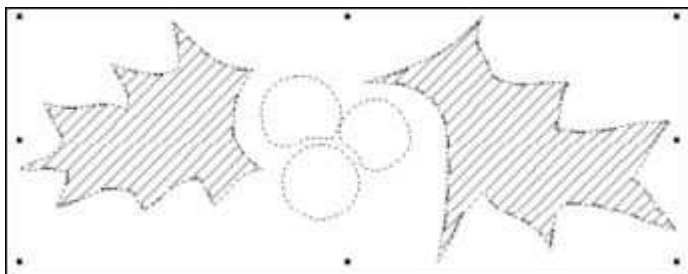

Figure 5
- 5 Select 45° Shading from the Main Toolbar. Select a Medium Shading from the Shading Parameters Dialogue Box. Click somewhere inside the left hand side leaf of the holly, then on the right hand leaf. See the results in, Figure 5.